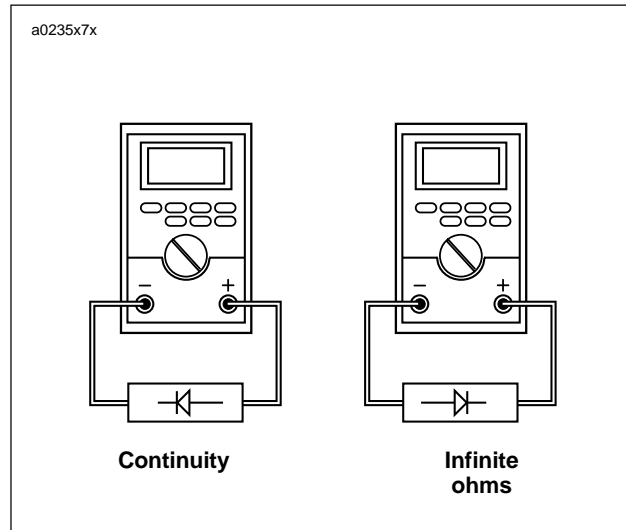

Figure 7-39. Ohmmeter Diode Test
1. Check diode with an ohmmeter as shown in Figure 7-39.